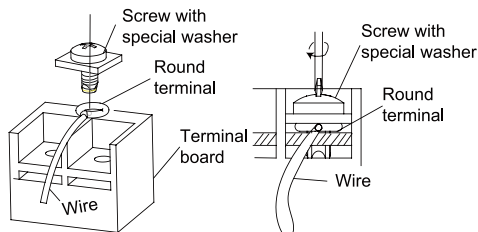

Fig.34
- 4). Position the round terminal wire, and replace and tighten the terminal screw with a screwdriver.(Fig.34
- ① . Tighten the power cord respectively on the terminal boards with screws. Faulty connection may cause a fire.
- ② . If the power supply are wired incorrectly, the air conditioner may be damaged.
- ③ . Connect the indoor unit connection cord properly based on the corresponding marks as shown in Fig.34.
- ④ . Ground both the indoor and outdoor units by attaching a ground wire.
- ⑤ . Unit shall be grounded in compliance with the applicable local and national codes.